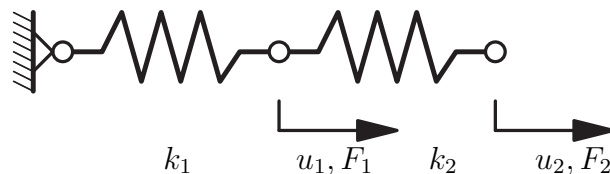

Figure 2: 2 degree of freedom system
- (a) Derive the expression for the total potential energy of the system constructed from 2 springs shown in Figure 2. The stiffness of the springs are k_1 and k_2 , the displacement and load at the two nodes are u_1, F_1, u_2, F_2 . Write down the expression for \mathbf{K} for this system.